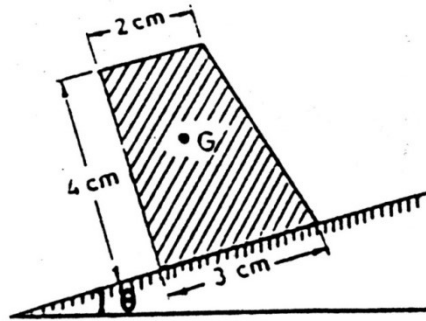

Figure 2.19
20. A block shown in Figure 2.19 weighing 1000 N is resting on a rough horizontal plane. The plane is gradually lifted to increase the angle θ . Determine whether sliding of block or overturning about A will occur first and the angle at which it occurs. Assume $\mu = 0.3$.